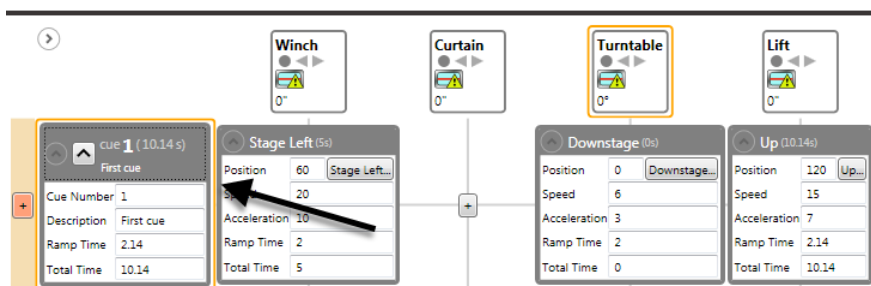

Figure 230
- Click on the applicable Cue in the **Cue Grid** (Figure 230).